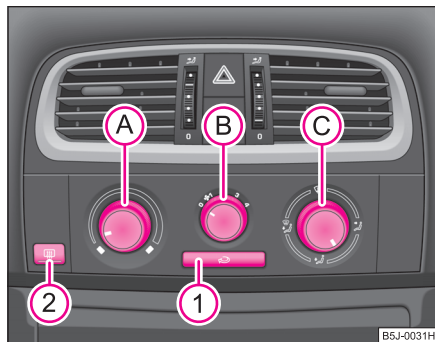
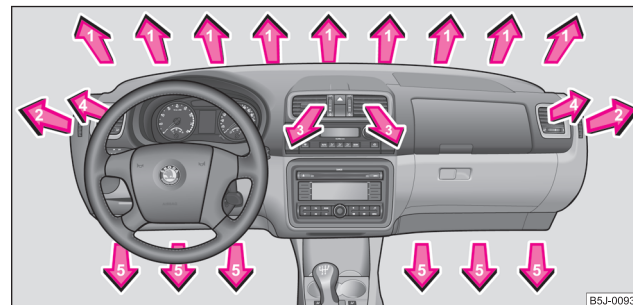

Fig. 81 Heating: Control elements
Fig. 82 Air outlet vents
- Turn the control dial **(A)** ⇒ fig. 81 to the right in order to increase the temperature.
- Turn control dial (A) ⇒ page 91, fig. 81 to the right up to the stop,
- Blower switch (B) in position 3,
- Turn the air distribution control (C) into the position ,
- Open air outlet vents 4 ⇒ page 93, fig. 82 and point towards the side window.
- Turn the control dial (A) ⇒ page 91, fig. 81 to the left up to the stop,
- Blower switch (B) in the desired position,
- Open air outlet vents 3 and 4 ⇒ page 93, fig. 82
- Press button , the button symbol  lights up ⇒ page 91, fig. 81.
The recirculated air mode is switched off automatically if the air distribution control  is in position  ⇒ page 91, fig. 81. You can also switch recirculated air mode on again from this setting by repeatedly pressing button .
You can set the air supply to the individual vents with the air distribution control  ⇒ page 91, fig. 81. Air outlet vents 3 and 4 can also be opened or closed individually.
Unwarmed or cooled air will flow out of the opened air outlet vents according to the setting of the control dial  ⇒ page 91, fig. 81 and according to atmospheric conditions. ■